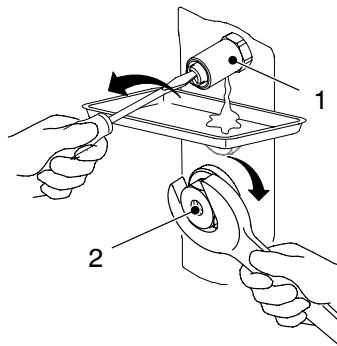

Fig. 5-15
2. Insert the filter cartridge (2, Fig. 5-15) in the filter bore and tighten somewhat.
3. Place a container under the respective air relief valve (1, Fig. 5-15).